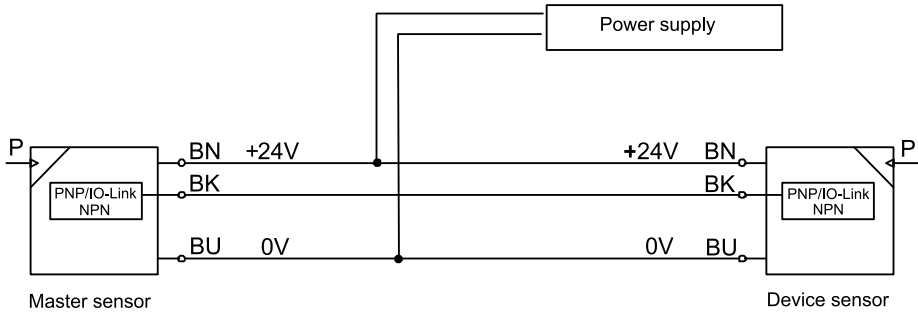

Fig. 7: Terminal allocation
- The master sensor is connected to the device sensor and the power supply → Fig. 7.